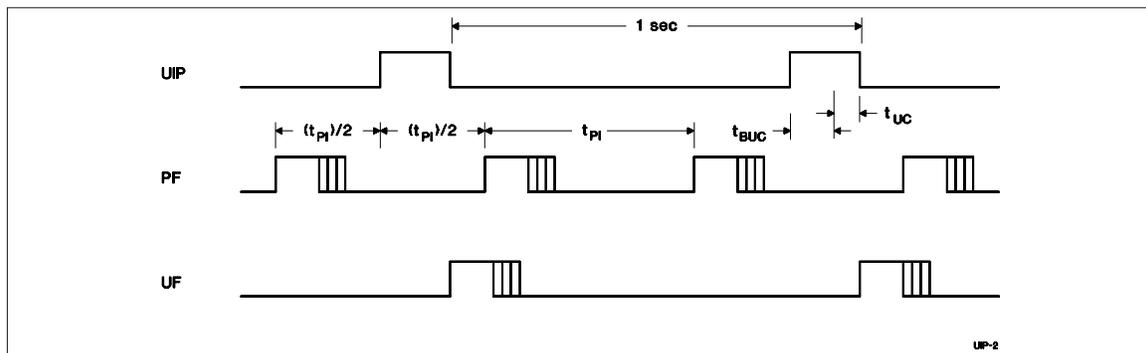

Figure 3. Update-Ended/Periodic Interrupt Relationship
- Enable the update interrupt event to generate interrupt requests at the end of the update cycle. The interrupt handler has a maximum of 999ms to access the clock bytes before the next update cycle begins (see Figure 3).
- Poll the update-in-progress bit (UIP) in register A. If UIP = 0, the polling routine has a minimum of  $t_{BUC}$  time to access the clock bytes (see Figure 3).
- Use the periodic interrupt event to generate interrupt requests every  $t_{PI}$  time, such that UIP = 1 always occurs between the periodic interrupts. The interrupt handler has a minimum of  $t_{PI}/2 + t_{BUC}$  time to access the clock bytes (see Figure 3).